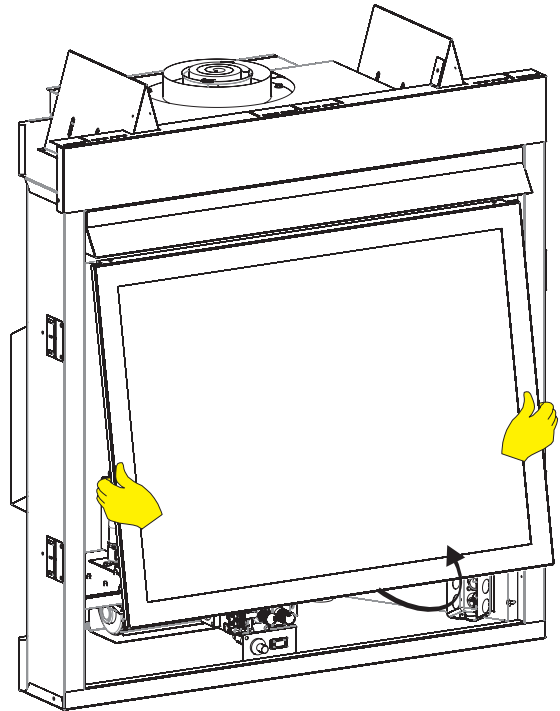

Figure 6
5. Move your hands to the sides of the glass frame and lift it up and away from the fireplace. See Figure 6.